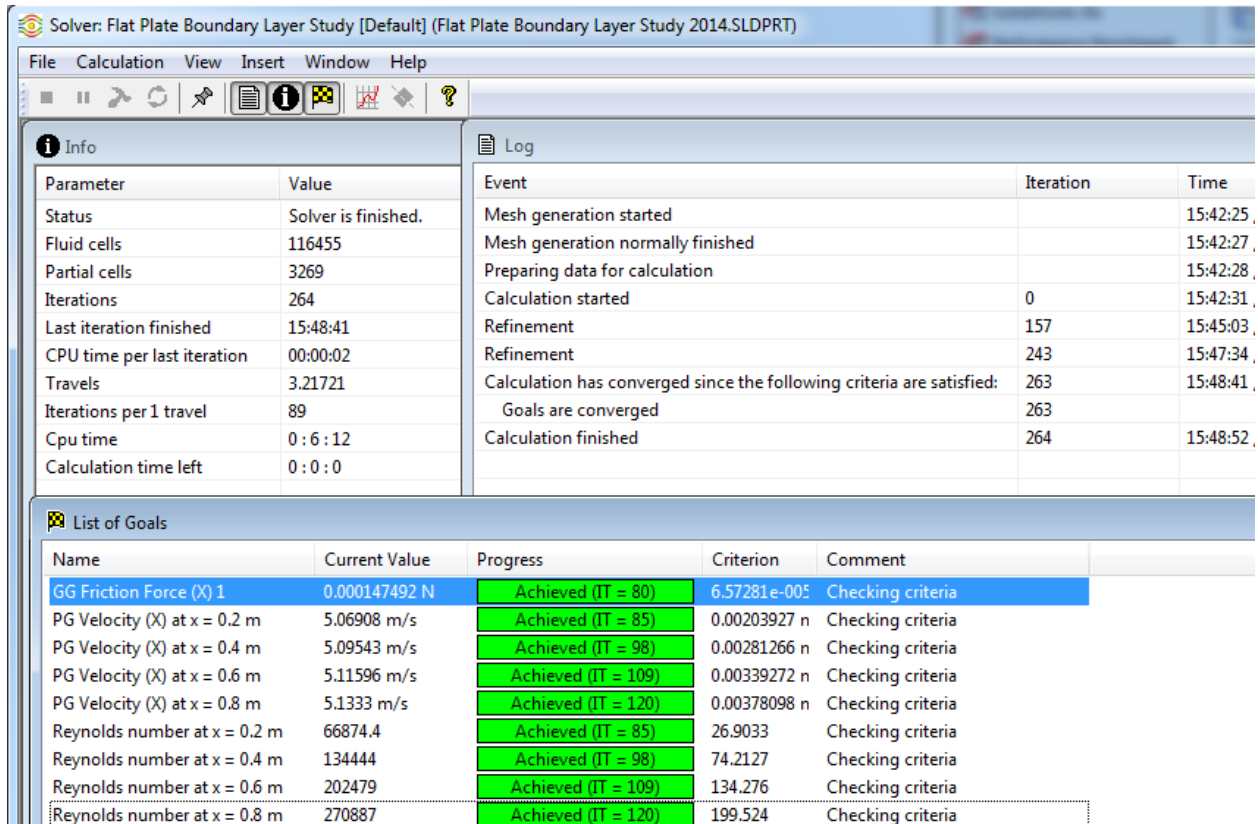
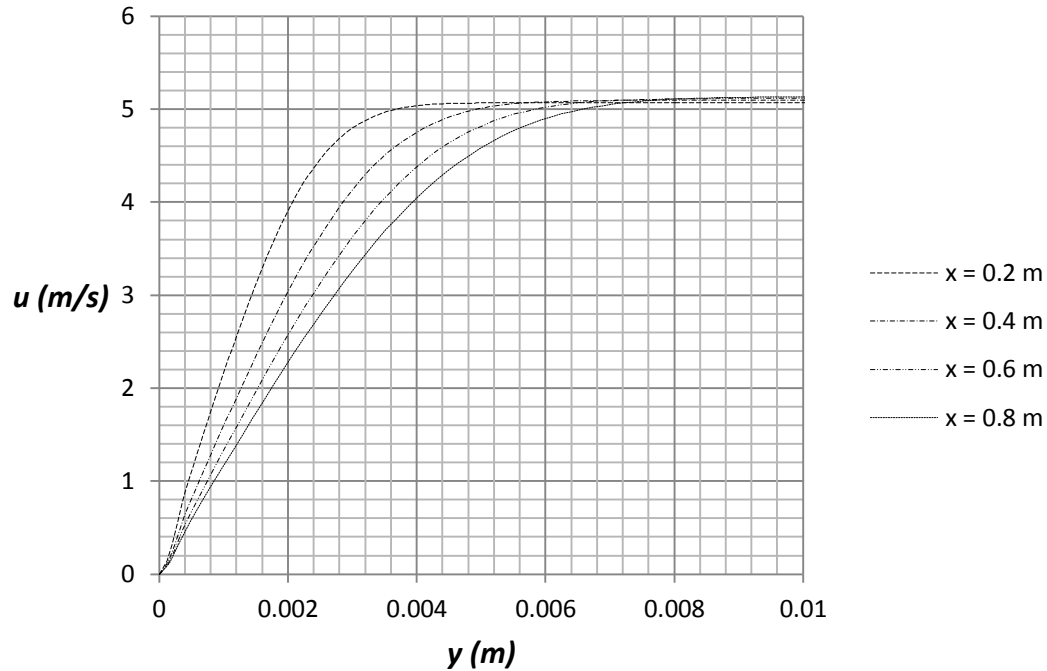
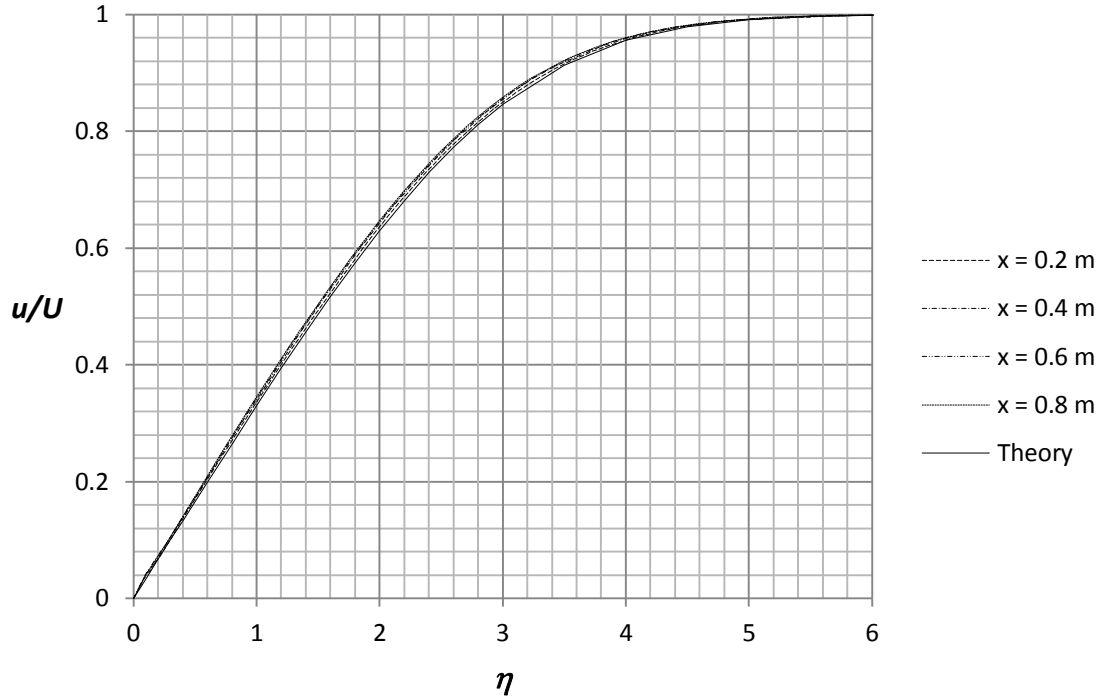

Figure 2.22c) Solver window
Figure 2.24c) Boundary layer velocity profiles on a flat plate at different streamwise positions
Figure 2.25a) Velocity profiles in comparison with the theoretical Blasius profile (full line)
- Place the file “xy-plot figure 2.24c)” into the **Local Disk (C:)/Program Files /SolidWorks Corp/SolidWorks Flow Simulation/lang/english/template/XY-plots** folder to make it available in the **Template** list. Click on the  **FeatureManager design tree**. Click on the sketch **x = 0.2, 0.4, 0.6, 0.8 m**. Click on the  **Flow Simulation analysis tree** tab. Right click **XY Plot** and select **Insert....** Check the **Velocity (X)** box. Open the **Resolution** portion of the **XY Plot** window and slide the **Geometry Resolution** as far as it goes to the right. Click on the **Evenly Distribute Output Points** button and increase the number of points to **500**. Open the **Options** portion and check the **Display boundary layer** box. Select the template “xy-plot figure 2.24c)” from the drop down menu. Click **Export to Excel** to create the **XY Plot** window. An Excel file will open with a graph of the velocity in the boundary layer at different streamwise positions, see figure 2.24c). Rename the inserted xy-plot in the **Flow Simulation analysis tree** to **Laminar Velocity Boundary Layer**.
26. Place the file “xy-plot figure 2.25a)” into the **Local Disk (C:)/Program Files /SolidWorks Corp/SolidWorks Flow Simulation/lang/english/template/XY-plots** folder to make it available in the **Template** list. Repeat step 24 and select the new template for the XY-plot. Rename the xy-plot to **Comparison with Blasius Profile**.
We see in figure 2.25a) that all profiles at different streamwise positions collapse on the same Blasius curve when we use the boundary layer similarity coordinate.
From the data of figure 2.24c) we can see that the thickness of the laminar boundary layer is close to 3.80 mm at $Re_x = 66,882$ corresponding to $x = 0.2$ m. The free stream velocity at $x = 0.2$ m is $U = 5.070$ m/s, see figure 2.22c) for list of goals in solver window, and 99% of this value is $U_\delta =$
5.019 m/s. The boundary layer thickness $\delta = 3.80$ mm from Flow Simulation was found by finding the y position corresponding to the U_δ velocity. This value for δ at $x = 0.2$ m and corresponding values further downstream at different x locations are available in the Plot Data for Figure 2.25a). The different values of the boundary layer thickness can be compared with values obtained using equation (3). In table 2.1 are comparisons shown between boundary layer thickness from Flow Simulation and theory corresponding to the four different Reynolds numbers shown in figure 2.24c). The Reynolds number varies between $Re_x = 66,882$ at $x = 0.2$ m and $Re_x = 270,887$ at $x = 0.8$ m.
The average friction coefficient over the whole plate C_f is not a function of the surface roughness for the laminar boundary layer but a function of the Reynolds number based on the length of the plate Re_L , see figure E3 in Exercise 8 at the end of this chapter. This friction coefficient can be determined in Flow Simulation by using the final value of the global goal, the X-component of the Shear Force F_f , see figure 2.22c) and dividing it by the dynamic pressure times the area A in the X-Z plane of the computational domain related to the flat plate.